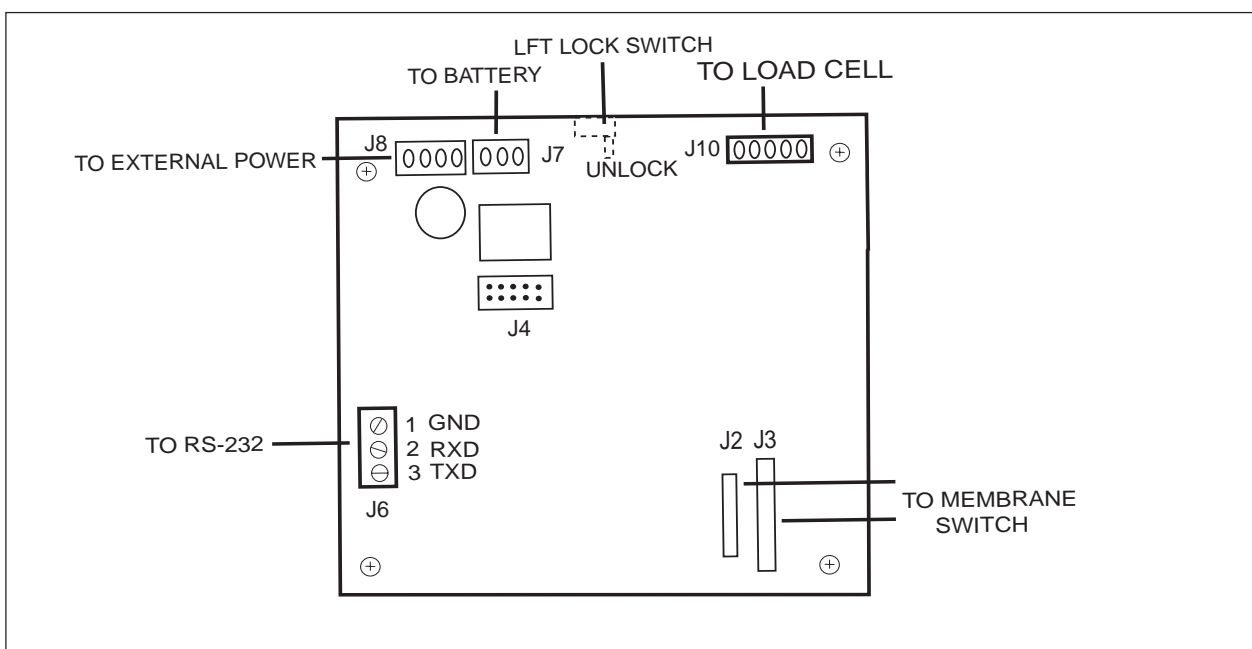

Figure 3-4. Trooper Count Scale Main PC Board Connector Locations.
2. Remove the connector plugs from connectors J7, J8 and J10 from the Main PC Board which is the battery, external power wires and Load Cell. See Figure 3-4.
2. Remove the connector plugs from connectors J2, J3 and J4 from the Main PC Board which is the membrane switch and display cables. See Figure 3-4.